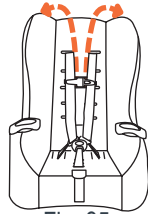

Fig. 35c
6. Pull seat fabric up and over the top of the car seat. Then, install the pillow (Fig. 35c).